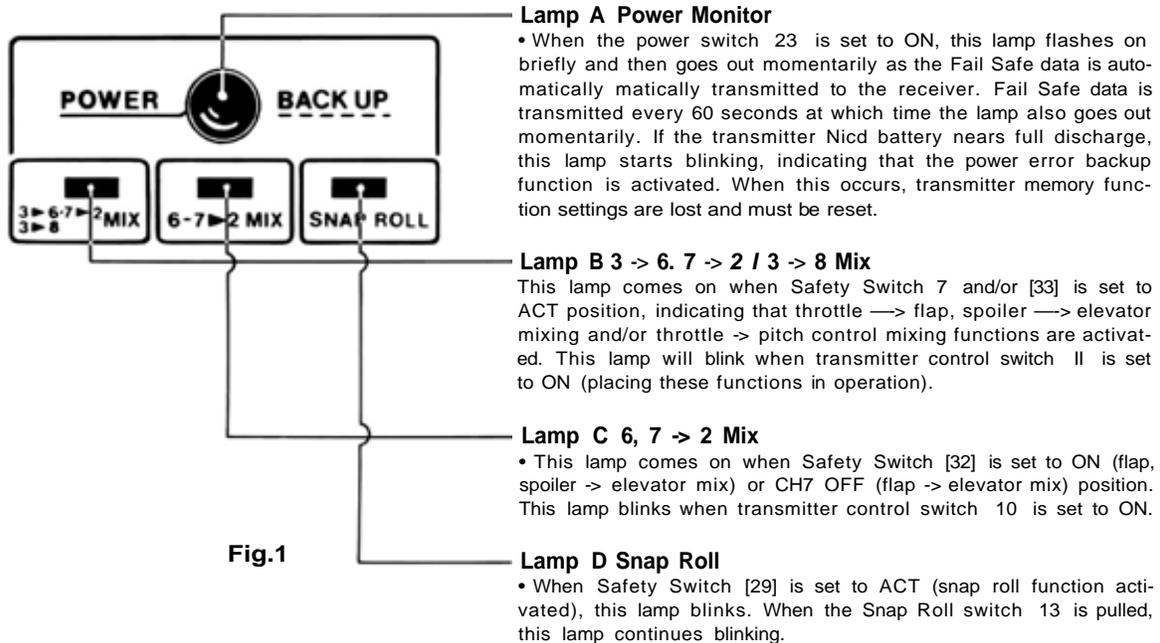

Fig.1
- Rotative open gimbal stick allows setting of the operating direction of the stick within a range of  $\pm 34$  degrees by loosening screws 1 to 4 in the figure 1/2 turn and turning the stick grille.